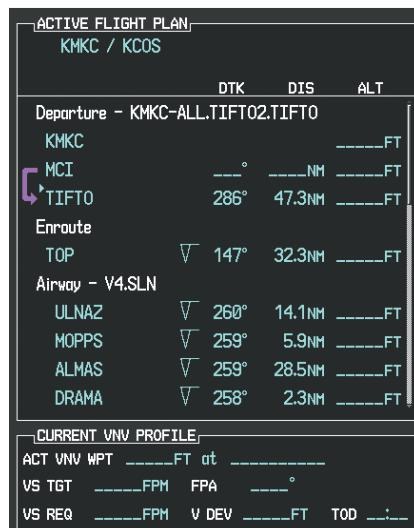

Figure 5-113 V4 is Loaded in the Flight Plan
- I) V4 is now loaded into the flight plan as shown in Figure 5-113.